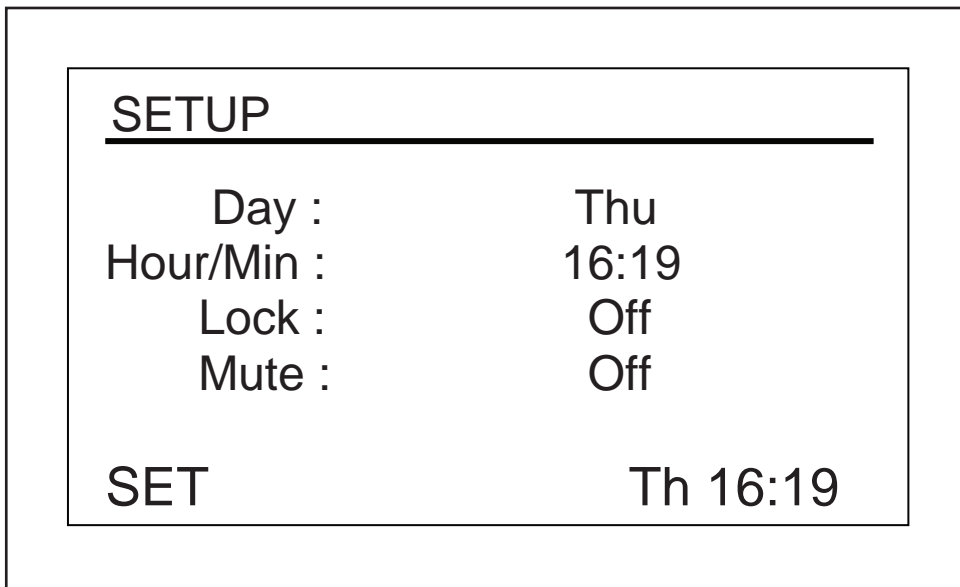

Fig. 9-5: Setup screen
1. Turn the knob to highlight the day (*Thu* in the sample screen, (see Fig. 9-5 on p. 51)), then click inward once.
1. Turn the knob to highlight the time (*16:19* in the sample screen, (see Fig. 9-5 on p. 51)) then click inward once.
The current status (*Off* in the sample screen, (see Fig. 9-5 on p. 51)) will flash.